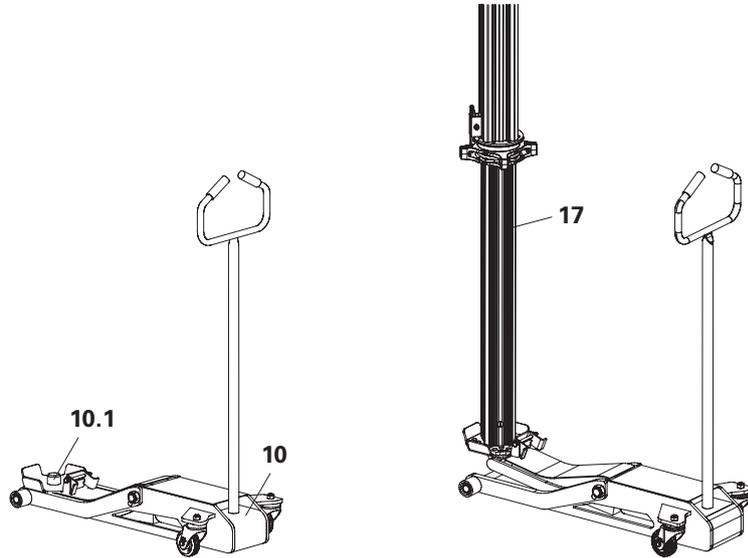

Fig. A6.01
Accommodate MP Prop (17) on the centering pivot (10.1) of the hydraulic lowering device (10). (Fig. A6.01)